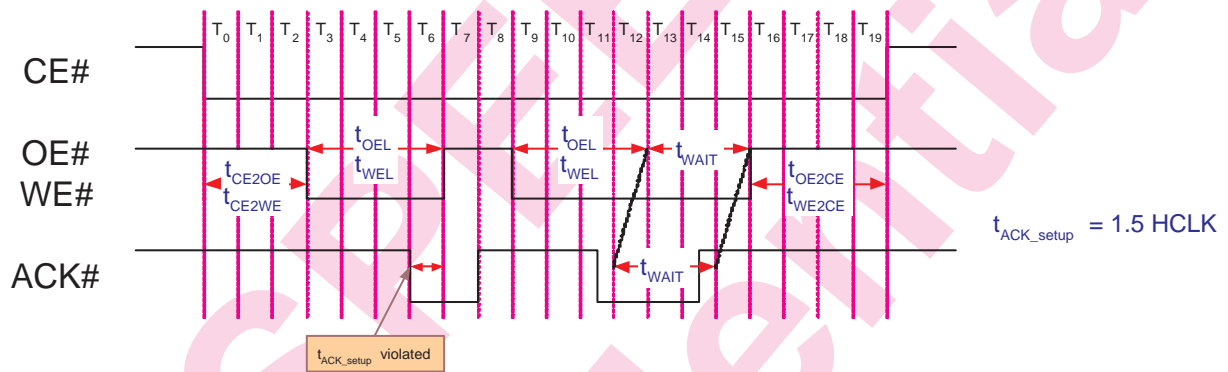

Figure 60: NOR Flash ACK Setup Timing
- Figure 60: NOR type flash setup time requirement of external ACK